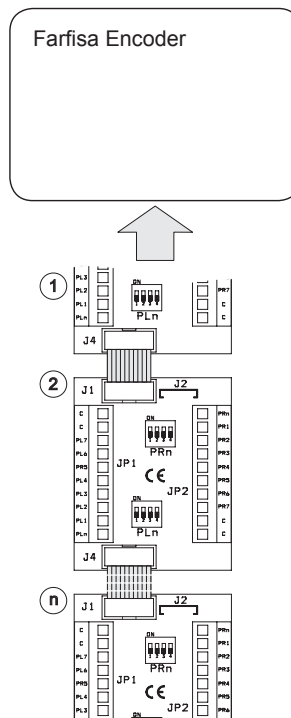

fig. 2
- Connect an eventual second board to the first using the connector J4 of the first board and J1 of the second one (fig.2).
- Connect in a similar way the eventual other boards XT2928U if present in the system (fig.2).